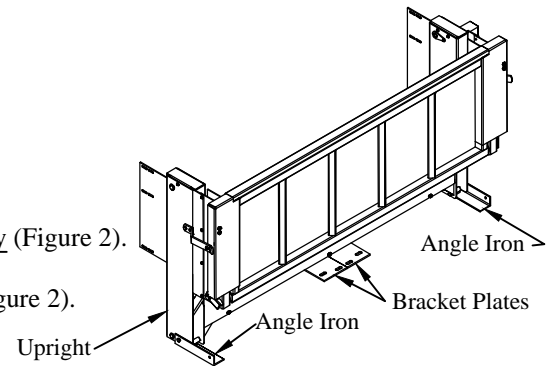

Figure 2: Complete liftgate (G2 shown).
4. **Unbolt** and **Save** the two (2) angle irons attached to the liftgate uprights- **G2 only** (Figure 2).
5. **Remove** and **Save** the two (2) bracket plates attached to the liftgate- **G2 only** (Figure 2).